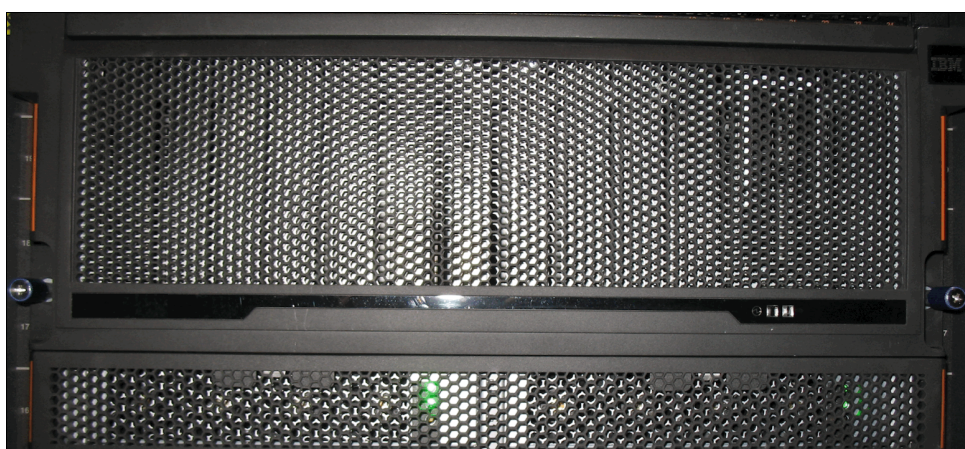

Figure 1-5 2145 LFF HD expansion enclosure
- Figure 1-5 shows the large form factor high density (LFF HD) expansion enclosure, which can hold 92 3.5-inch drives (or 92 2.5-inch drives in carriers) and is 5U high.